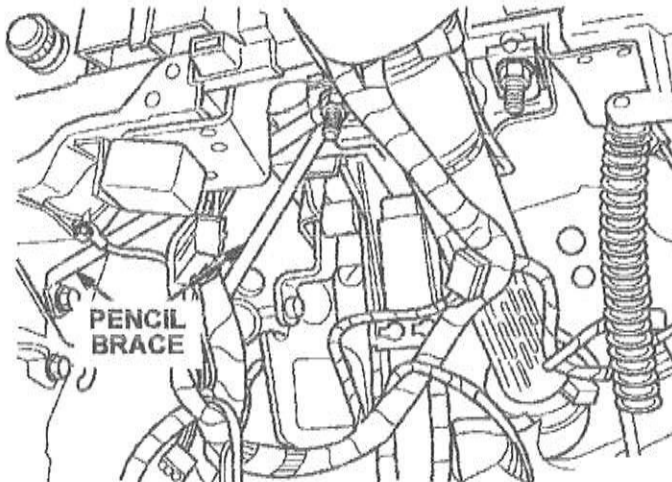

Figure 14
16. Remove the short pencil brace (Figure 14).